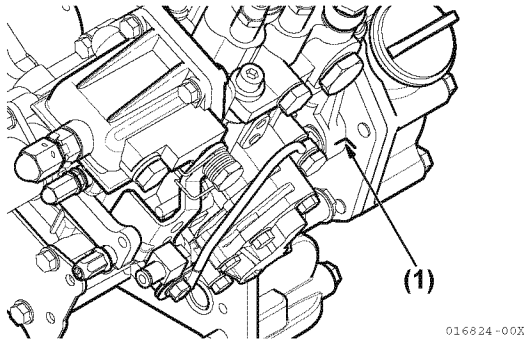

Figure 6-36
21. Locate the mark stamped into the upper outside mounting boss of the fuel injection pump. Highlight this mark and make a corresponding mark on the gear case (Figure 6-36, (1)).